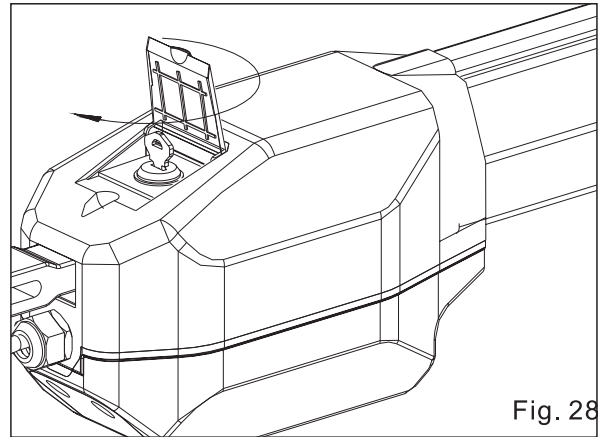

Fig. 28
- 2) Insert the key and turn it 90°, Fig.28